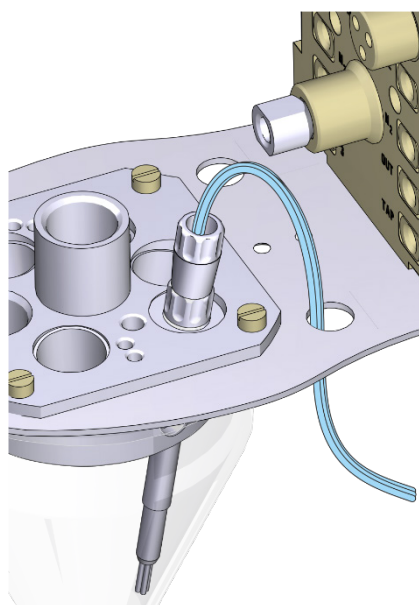

Fig. 5: Installation of the four-way micro dosing tip
- The four-way micro dosing tip (6.1824.000) is guided through the opening on the right side (see Fig. 5).